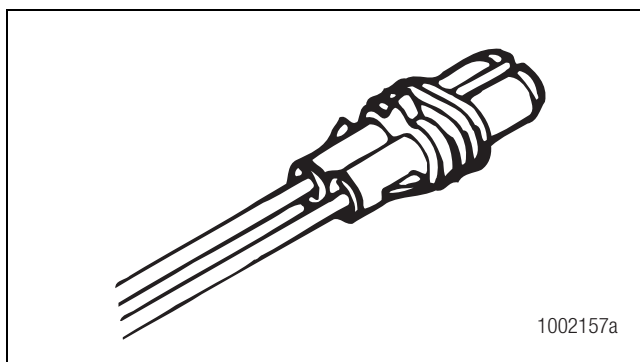

Figure 1.23
**Heater Power Harness:** Twelve-inch cable with Metri-Pack plug provides electrical connection to air dryer heating unit. Figure 1.23.